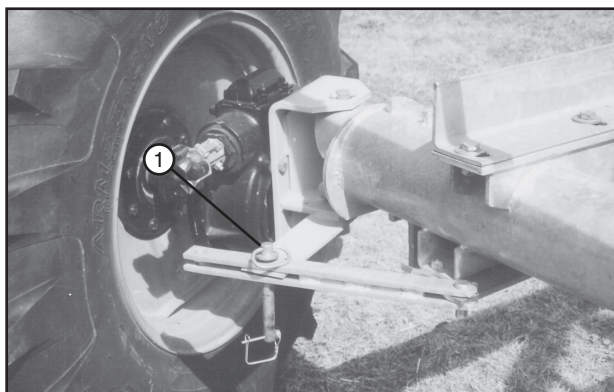

Figure 86-1 1. Lock Swivel Mounts
5. Remove a torque pin from the towable gearbox hub, then align the swivel mount link with the hole in the swivel mount tongue and insert the torque pin (be sure to use the middle hole in the link to attain the 60° angle). Repeat steps 3 through 5 on the other wheel/gearbox assemblies. See Figure 86-1.